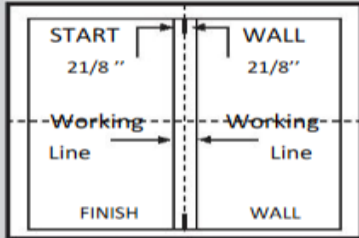

Fig 2.
- Measure 2 1/8" from the left and right of the center mark at both ends of the room and strike a chalk line (Fig 2.).